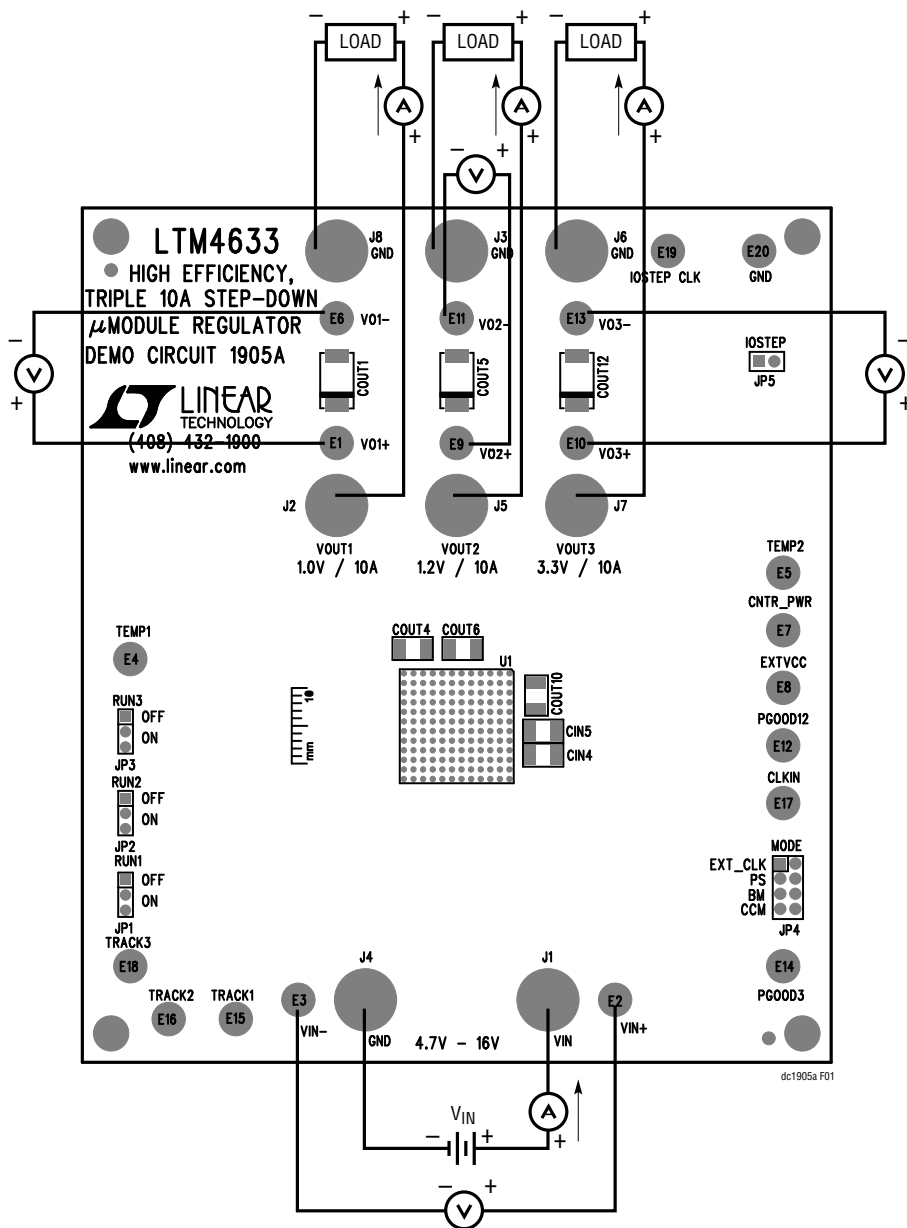

Figure 1. Measurement Setup of DC1905A
Demonstration circuit DC1905A is an easy way to evaluate the performance of the LTM4633EY. Please refer to Figure 1 for proper measurement equipment setup and follow the procedure below:
- With power off, connect the input power supply, loads and meters as shown in Figure 1. Preset the load to 0A and V_{IN} supply to 12V.